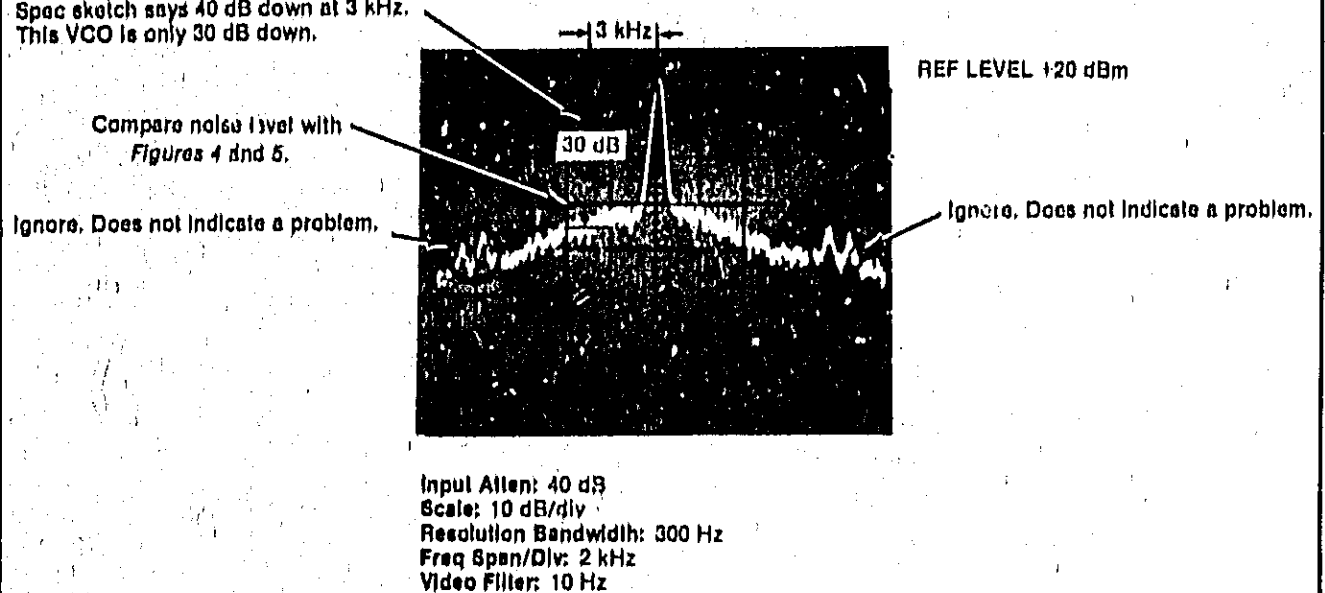

Figure 6. Improper VCO Signal
- (1) Set the VCO to 981.2 MHz, using diagnostic mode 09. This is the midband VCO frequency. Refer to Table 8-9 for procedure to use for setting VCO frequency.
- (2) Figure 4 shows a sketch of the minimum VCO with proper output. Note noise floor level with respect to signal level. Figure 5 shows an actual photo of VCO signal that is also correct. Figure 6 shows an incorrect VCO output. Note noise floor level.